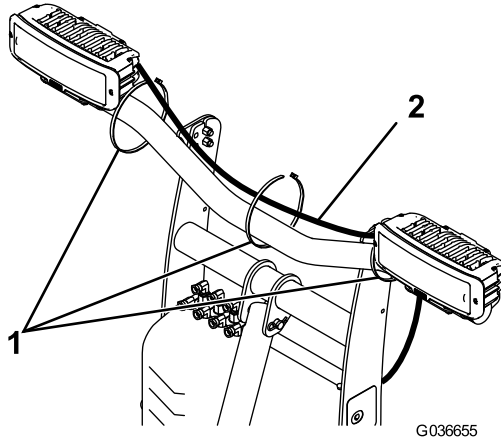

Figure 12
- Insert the headlight connectors on the wire harness to the back of the headlight housing (Figure 12).
- Secure the short wire harness to the light bar using 3 cable ties as shown in Figure 12.